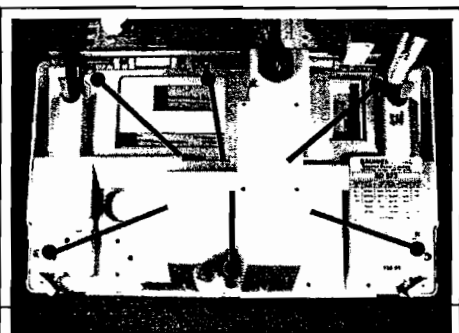

Fig. 75
- (a) With lower front (control) panel in horizontal position, support external plastic panel, undo and remove the six screws holding the inner and outer lower panels together - three located at outer and three at the inner edge of lower front panel. Fig.75.